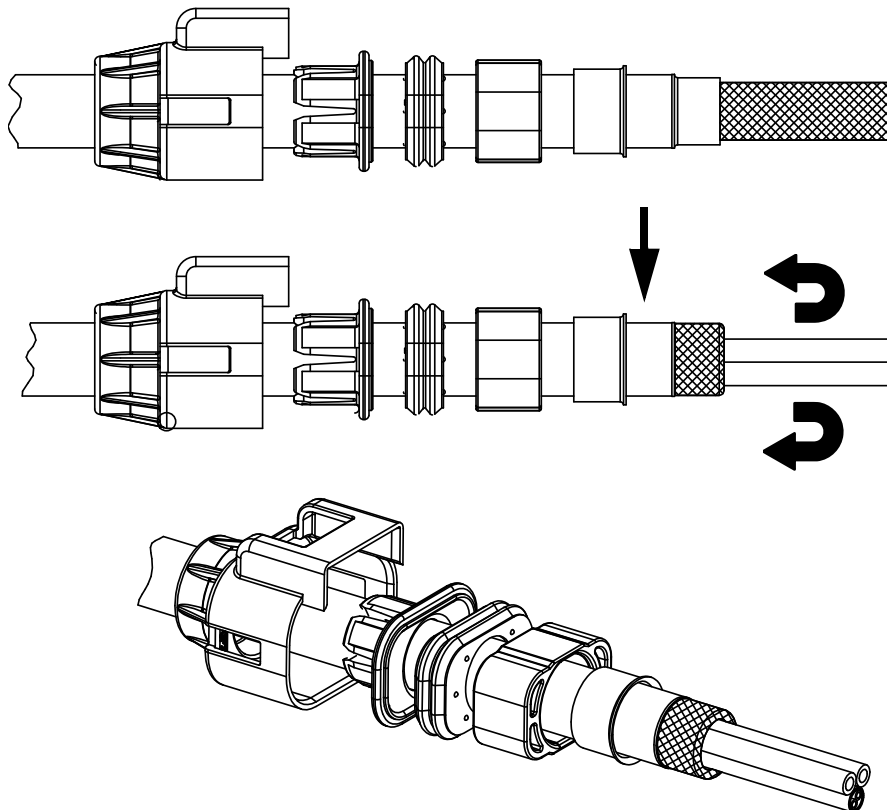

Figure 6
4. Fold the braided cable shield back over the inner ferrule and trim as shown in Figure 6. Remove filler and separator (if present).